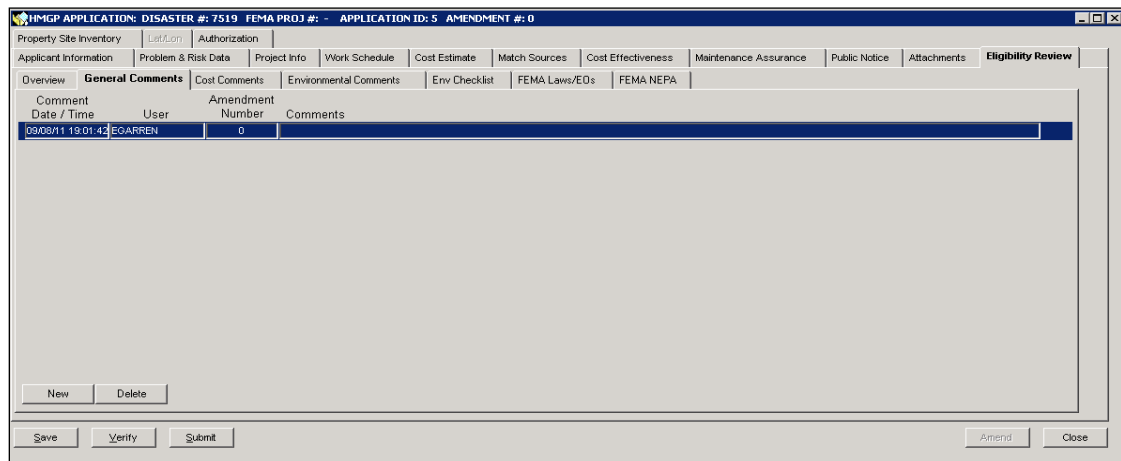

Figure 6-69: General Comments Sub-tab with New Row
- a. On the bottom left part of the **General Comments** sub-tab, click the **NEW** button. A new row is displayed with the Comment Date/Time, User and Amendment Number fields already filled in by the system (Figure 6-69).